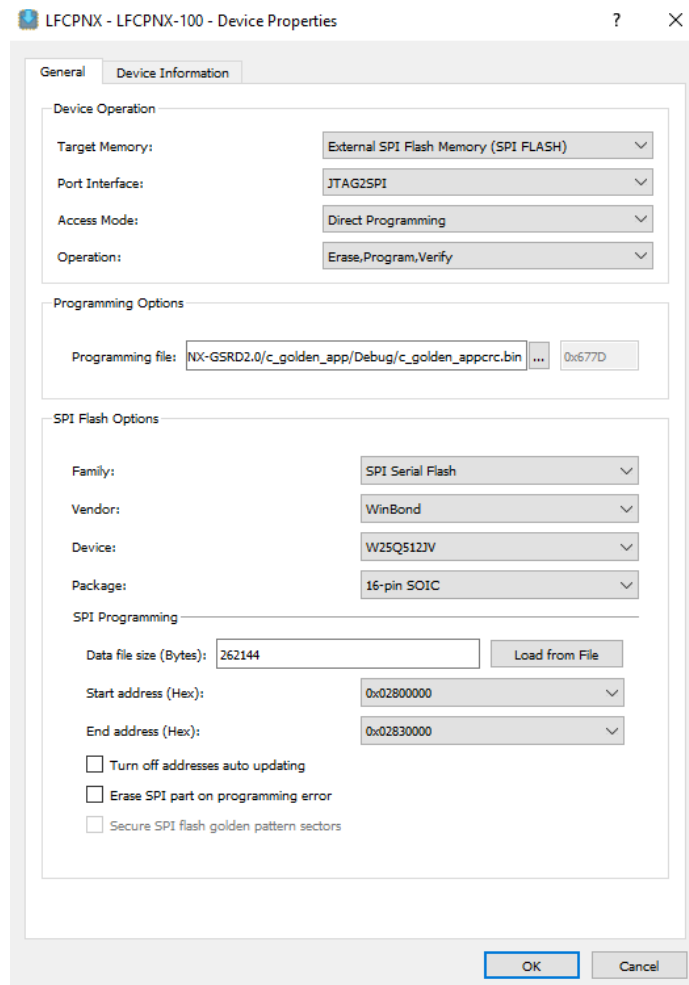

Figure 7.40. Device Properties for Programming Golden App Binary with CRC
4. To program the **c_golden_appcrc.bin** software file into the SPI Flash, Follow the settings as shown in Figure 7.40.